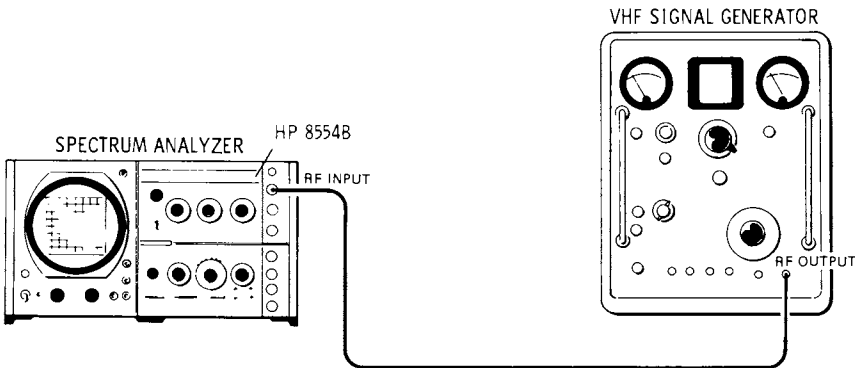

Figure 4-8. Noise Sideband Test
1. Connect the test setup shown in Figure 4-8 and make the following control settings: